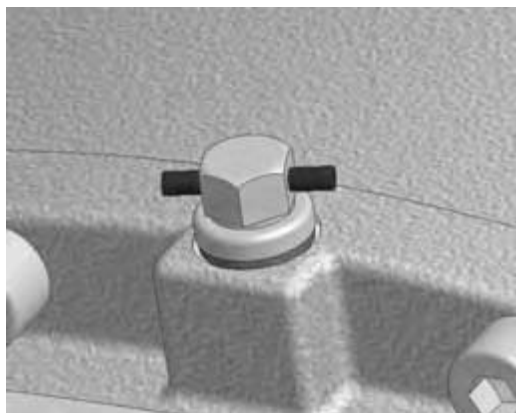

Figure 1, un-activated vent plug
- Control for oil leakage on gears – leave vent plug in gear until gear is installed and in correct position (see Figure 1).